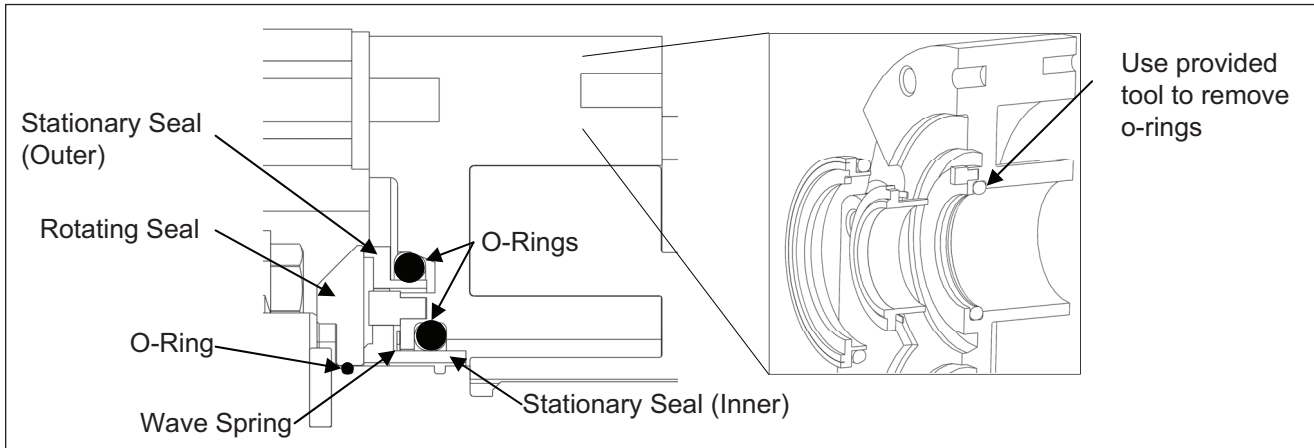

Figure 35. Double Mechanical Seal Disassembly
**Disassembly:** The double mechanical seal option consists of two mechanical seal sets (rotating seal, inner and outer stationary seal), two wave springs, and six o-rings (Figure 35). Remove the outer and inner seals from the back of the body and inspect them for chipping, scratches or any other evidence of cracks